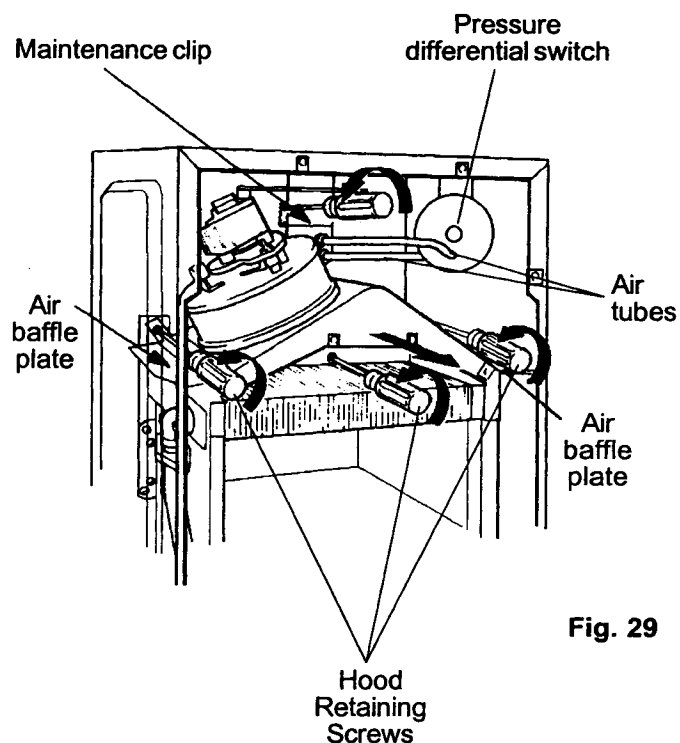

Fig. 29
- 8.9.2 Loosen maintenance clip securing screws (see fig. 29) and slide upwards to clear joint.
- 8.9.4 Remove 3 flue hood retaining screws (see fig. 29)
Refer to Fig. 29